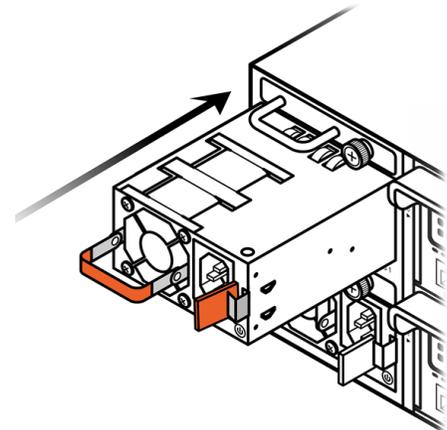

Figure 3-8. Installing the PSU
1. Align the PSU with the chassis bay and slide it completely in. See Figure 3-8.